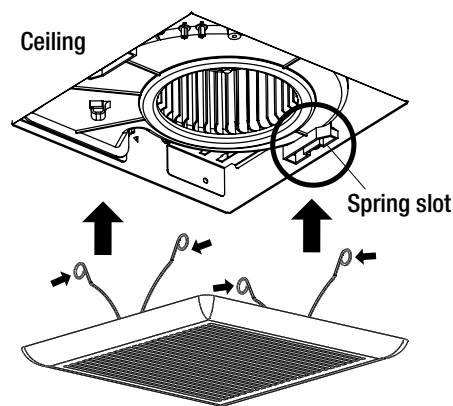

Fig. 22
- Squeeze the springs on the grille together, and insert the springs into the slots of the housing assembly. Firmly push the grille up against the ceiling. See figure 22.